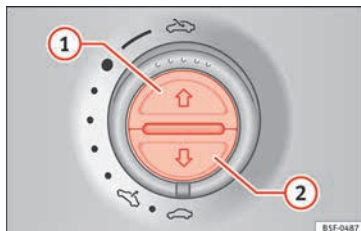

Fig. 138 On the interior roof lining: switches for the sun blind.
Opening completely (automatic function)	Press button » Fig. 138 (1) briefly.
- *Sun blind*: Within five seconds of triggering the anti-trap function, press button » **Fig. 138**  until the sun blind closes fully.